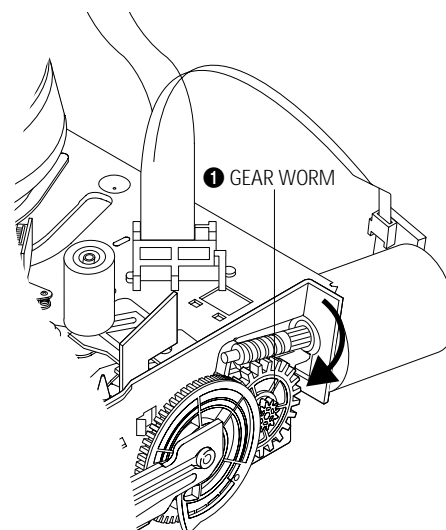

Fig. 4-39
- 3) Rotate Gear Worm ❶ clockwise using screw driver again up to the state of eject mode and then pick out the tape. (Refer to Fig.4-39)